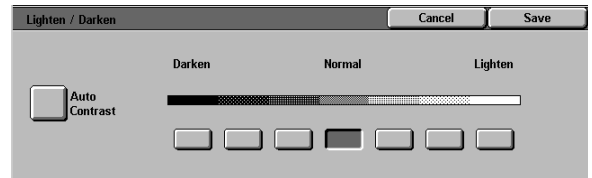

Figure 24: Lighten/Darken screen
- 1 Touch the **Lighten/Darken** button on the Image Quality tab to display the Lighten/Darken screen, as illustrated in Figure 24.